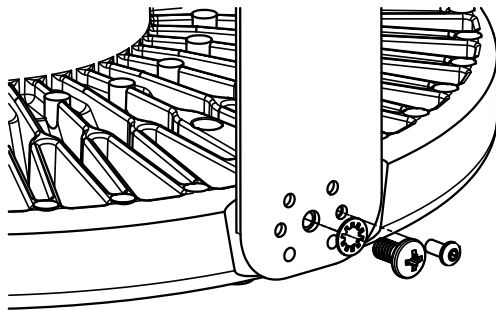

FIGURE 2
2. Secure yoke to heatsink with (2) ¼-20 screws and (2) star washers. (See Figure 2)
5. Fasten (2) 8-32 screws through the yoke and into the heatsink to lock the rotation of the heatsink. (See Figure 2)